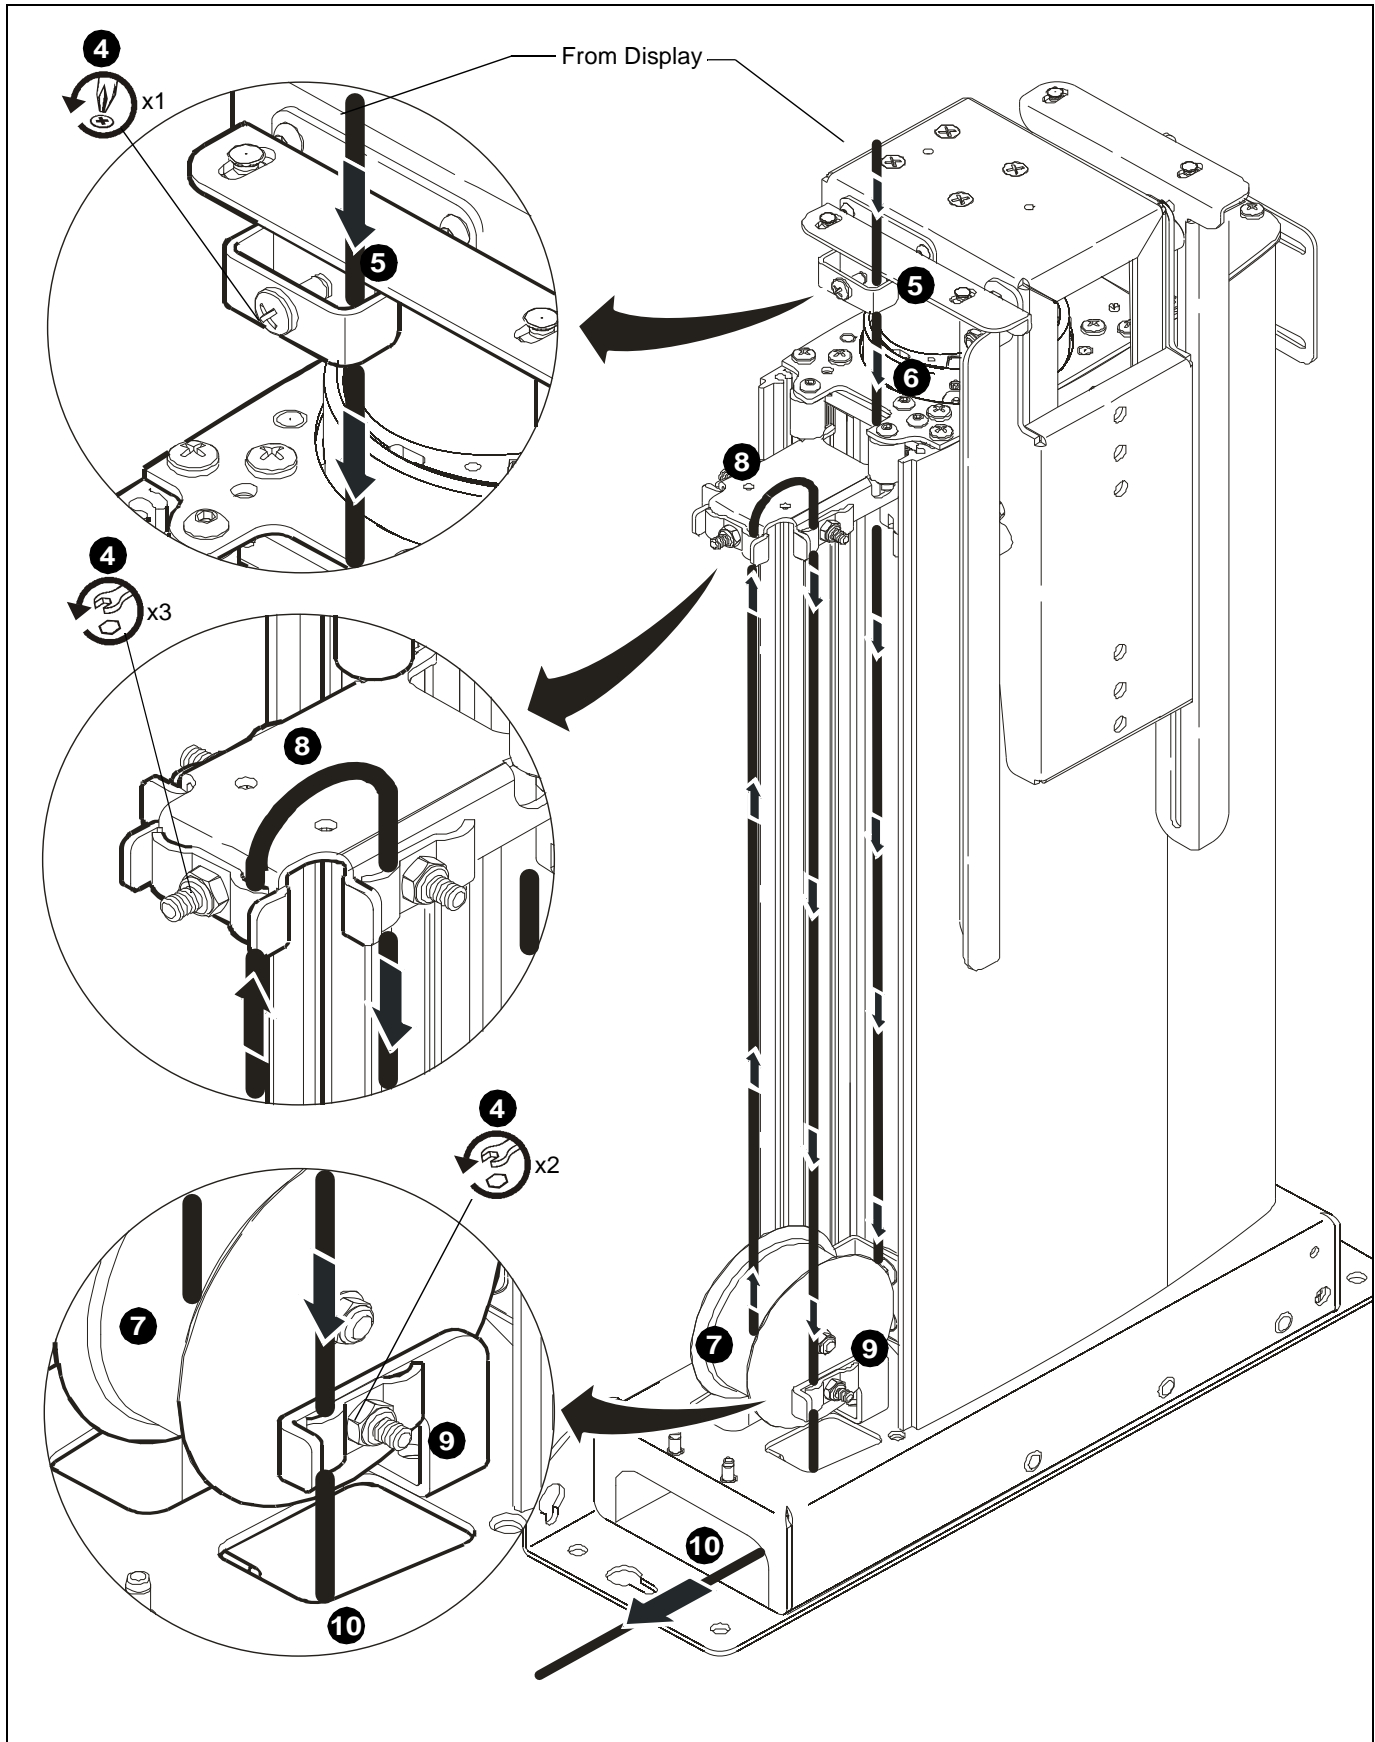
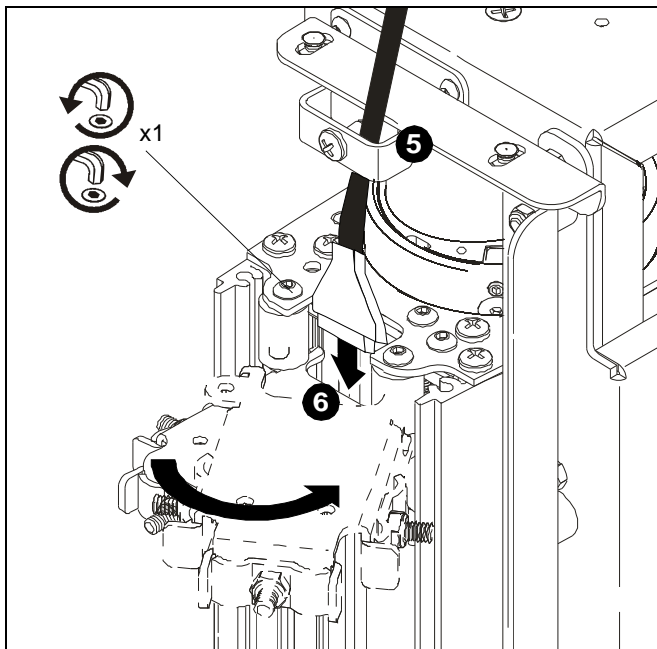

Figure 10
Figure 11
4. Loosen six cable clamps. (See figure 10)
5. Route cable(s) down through upper cable clamp. (See figure 10) and (See figure 11)
6. Route cable(s) down through opening at rear of middle cable clamp mounting bracket. (See figure 10) and (See figure 11)
CAUTION: Bracket mounting hardware **MUST** be reinstalled and tightened before continuing with cable installation. (See figure 11)
7. Route cable under cable pulley and up through front cable clamp on middle cable clamp mounting bracket. (See figure 10)
8. Loop cable and route cable down through side cable clamp(s) on middle cable clamp mounting bracket. (See figure 10)
CAUTION: Cables must not extend higher than 1" (25mm) above cable mounting bracket when looped! (See figure 10)
9. Route cable(s) down through lower cable clamp(s). (See figure 10)
10. Route cable through cable access opening in top of mount base and cable access opening in side of mount base. (See figure 10)
12. Starting at upper cable clamp and working downward, remove slack from all cables and tighten remaining cable clamps. (See figure 10)